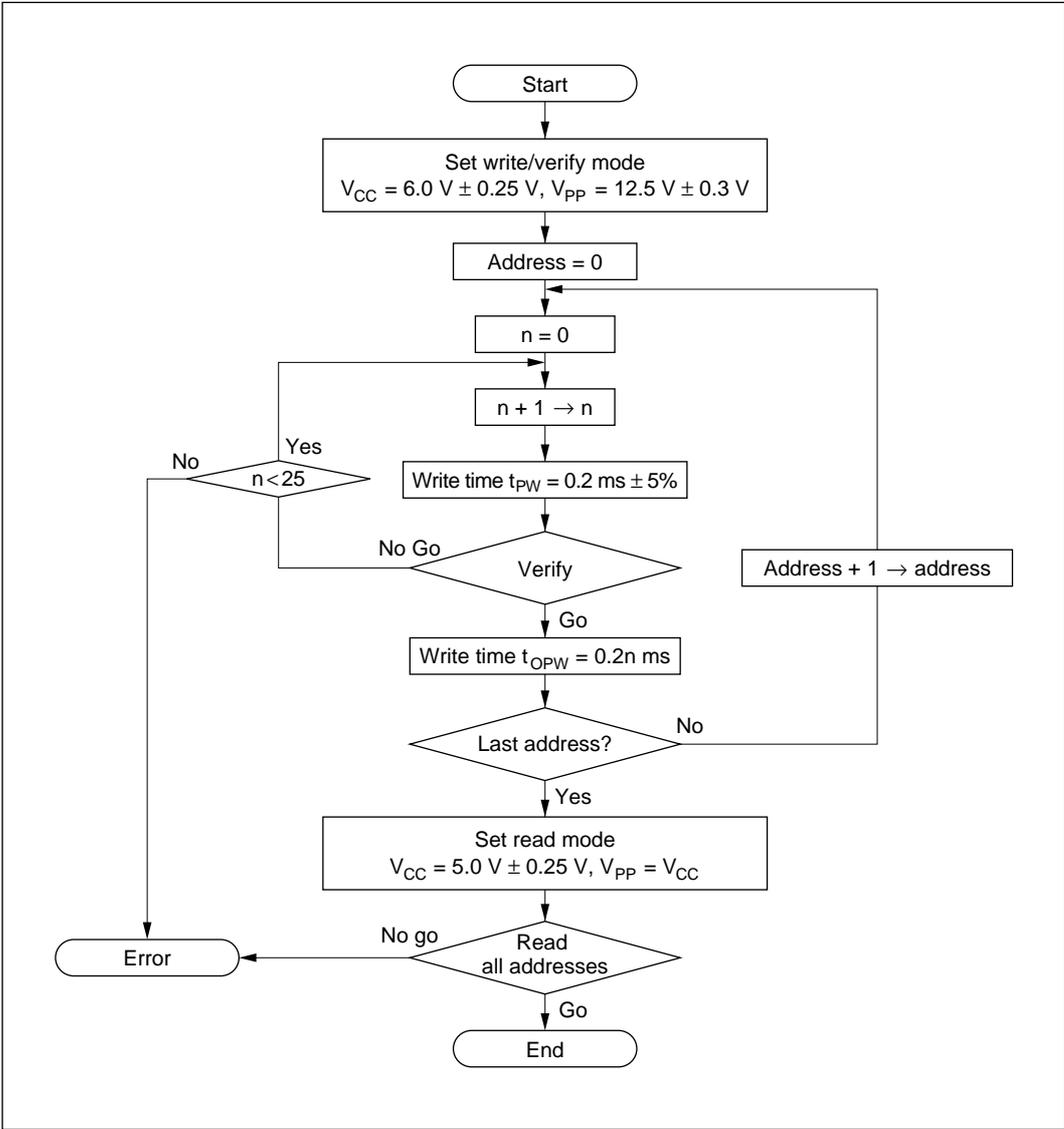

Figure 6-4 High-Speed, High-Reliability Programming Flow Chart
An efficient, high-speed, high-reliability method is available for writing and verifying the PROM data. This method achieves high speed without voltage stress on the device and without lowering the reliability of written data. The basic flow of this high-speed, high-reliability programming method is shown in figure 6-4.
3. t_{OPW} is defined by the value given in figure 6-4 (high-speed, high-reliability programming flow chart).